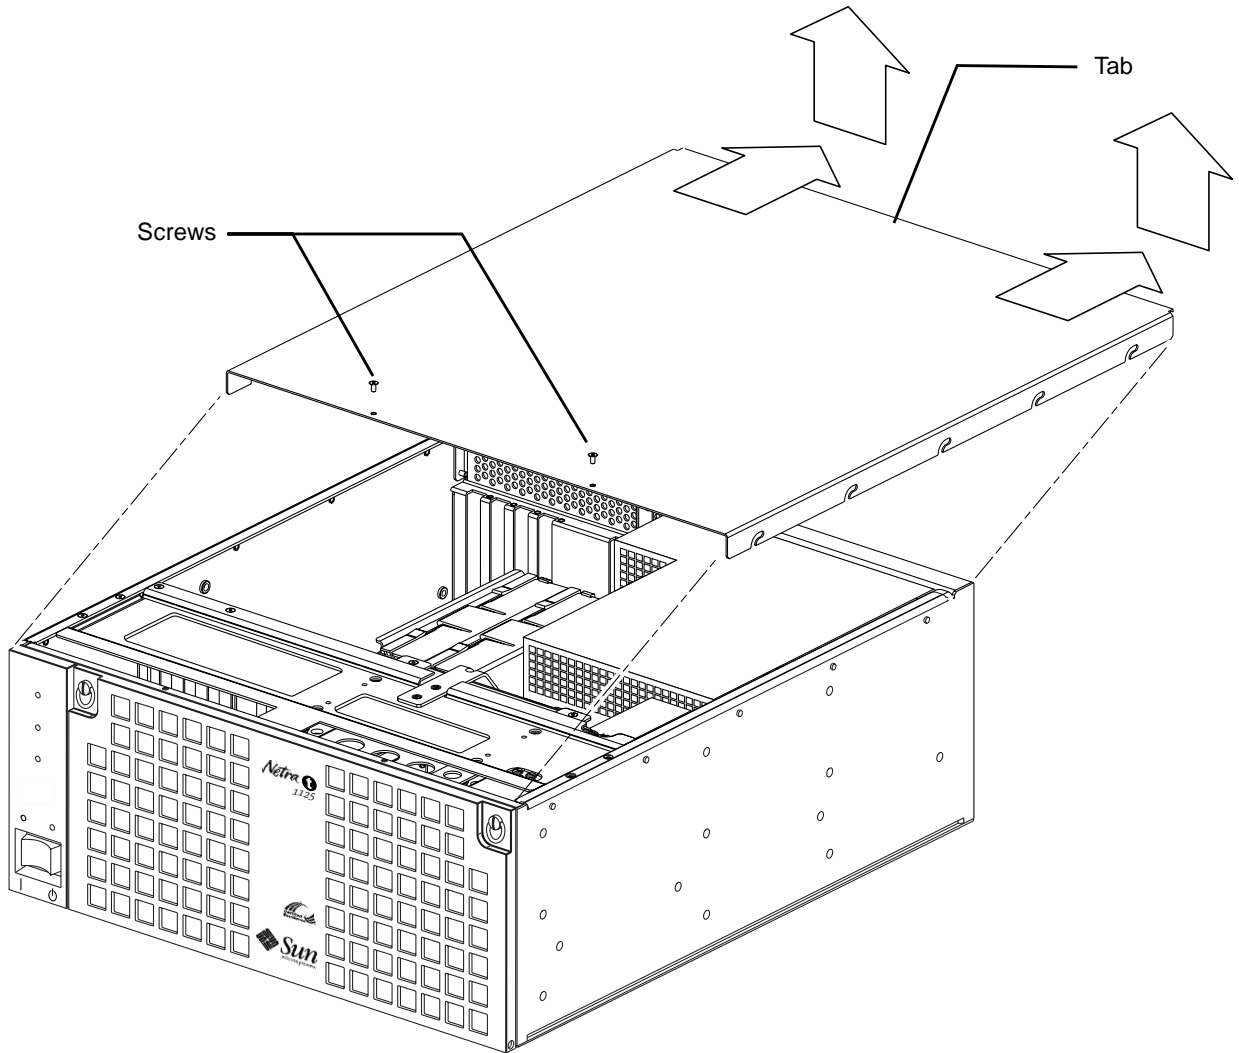

FIGURE 1-9 Removing the Top Access Cover
**4. Remove the rack fixing screws and withdraw the unit on its slides (if fitted). Refer to FIGURE 1-9 on page 1-11.**